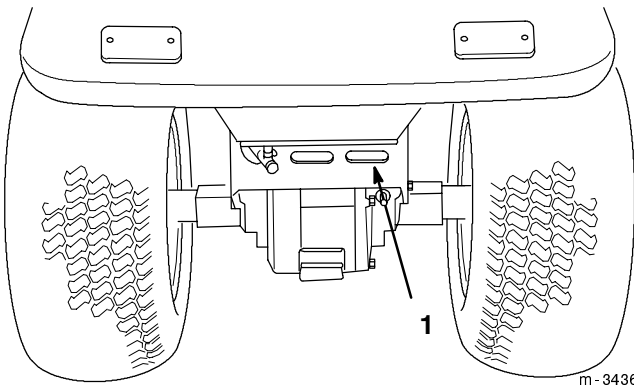

Figure 11
6. The rear transaxle cover is an air intake area for cooling the transaxle. Clean debris from the rear transaxle cover before operating the tractor (Fig. 11).